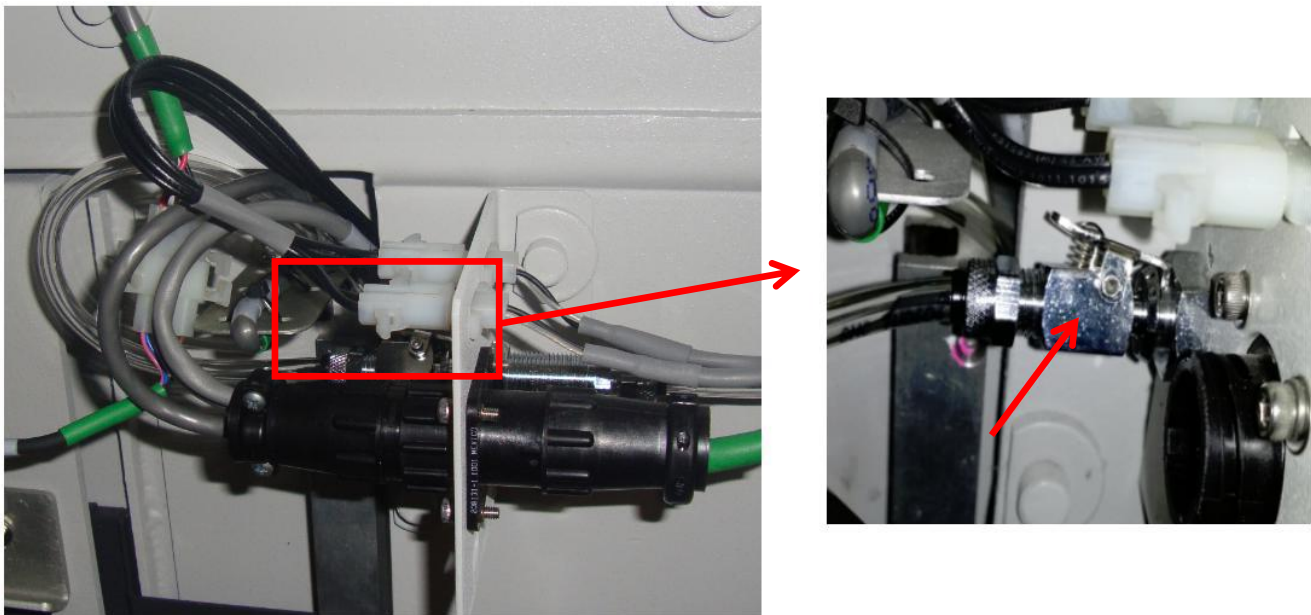

Figure 1
3. Unplug Parker Clip Fitting as below Figure 1.